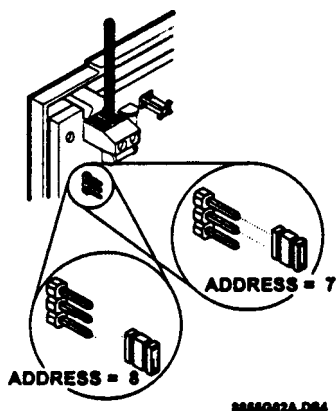

Figure 8. Setting the Address
1. Select an address (7 or 8) by setting the address jumper to 7 or 8 (see Figure 8).